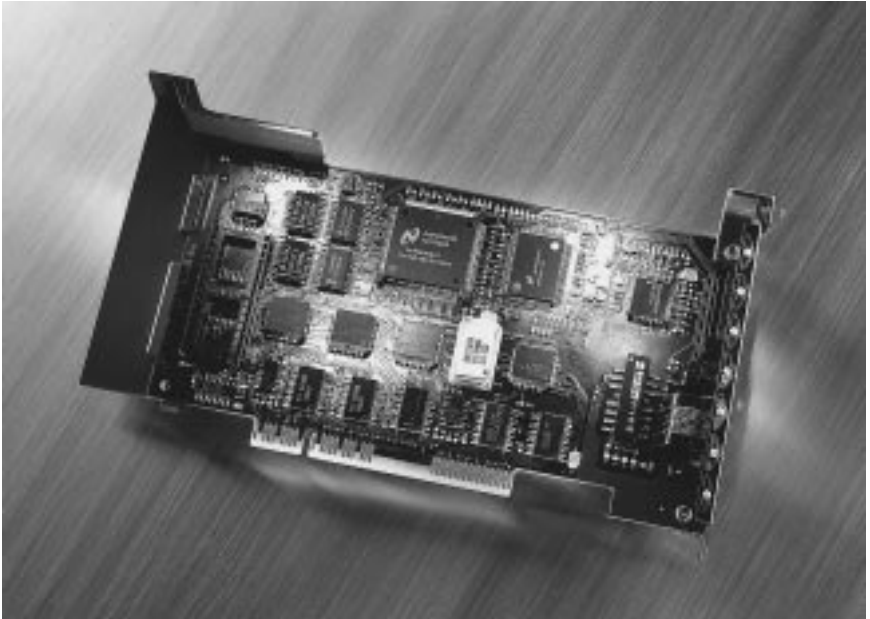

Figure 1. Ethernet MCA 10/100 Adapter
- One Ethernet MCA 10/100 Adapter (OC-2335) as shown in figure 1.